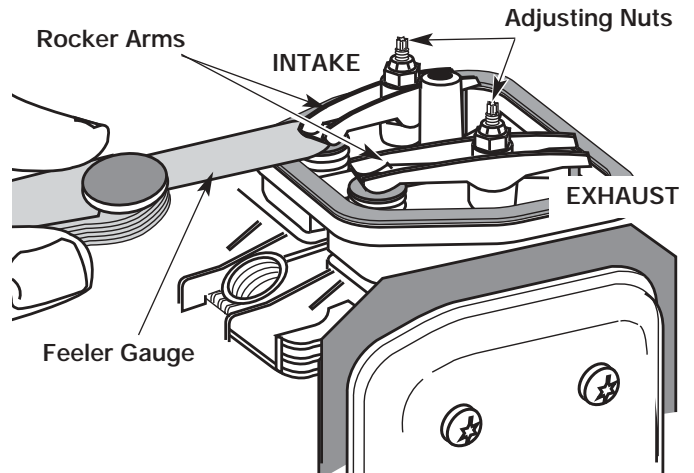

Fig. 71
- Slide the feeler gauge between the rocker arm and the valve return spring. Measure the clearance between the valve stem and rocker arm (Fig. 71). Measure both the intake and exhaust valves.
The recommended clearance for both intake and exhaust is 0.003 – 0.006 in. (0.076 – 0.152 mm). Use a standard automotive 0.005 in. (0.127 mm) feeler gauge. The feeler gauge should slide between the rocker arm and valve stem with a slight amount of resistance, without binding. See Figure 71 and 72.